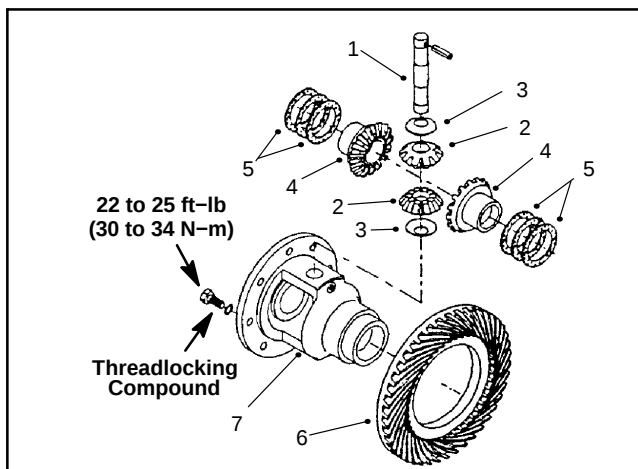

Figure 84
7. Remove the differential pinion shaft, pinion gears and pinion washers. Remove the differential side gears and side gear shims. Remove the ring gear only if it will be replaced (Fig. 84).